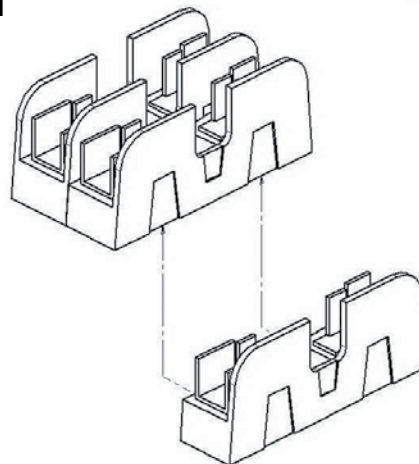

Figure 2
4. Connect the female quick-connect of the jumpers supplied to one of the male quick-connects of the secondary fuse block—one jumper to each end of the fuse block. (See Figure 2)